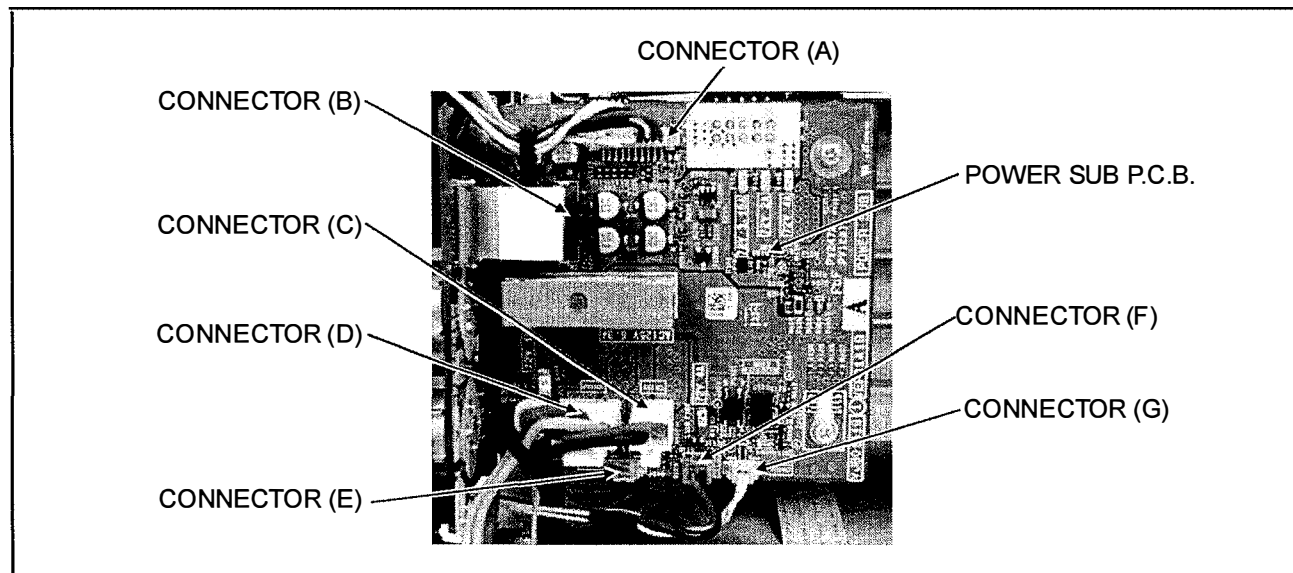

Figure 7-3
5. Disconnect the connector (A), (B), (C), (D), (E) (F) and (G) on the POWER SUB P.C.B. as shown in figure 7-3.
2. Insert the wires connected with connector (C) as shown in figure 7-3 in the cut and lacks part of POWER SUB P.C.B..